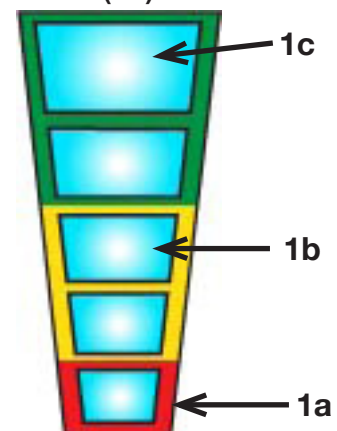
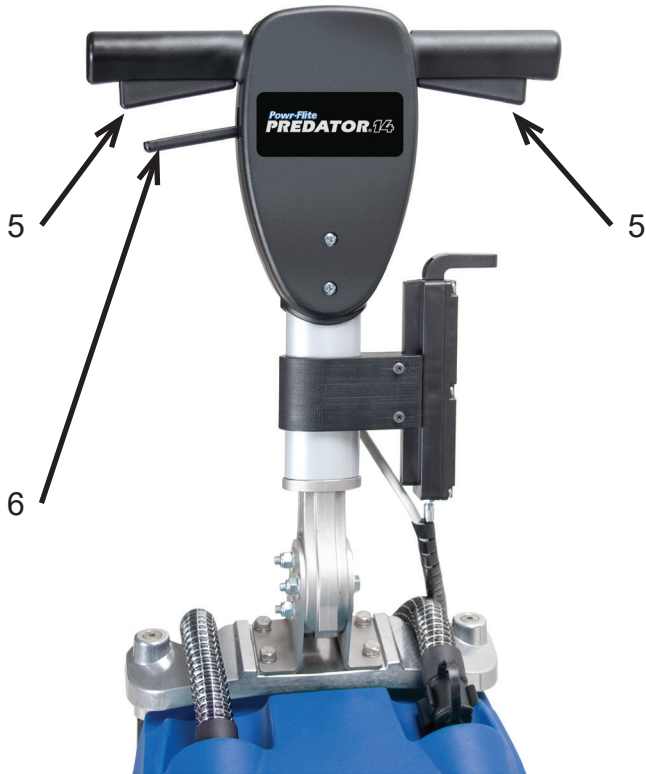

Fig 9
Fig 10
Select the most comfortable handle height using the adjustment lever (#6 on Fig 10) on the handle. Release the lever and lock in position.
The operating controls are located on the handle. (Fig 9). The icons adjacent to each switch identify the functions.
Used to switch brush motor ON and OFF. To start the brush rotating, pull the lever on the right or left hand side of the handle 5 (Fig 10). Button is illuminated when in the ON position.
The solution is controlled by pressing both switch 3 and by pulling the lever on the right or left hand side of the handle 5 (Fig 10). Button is illuminated when in the ON position.
- Check the status of the battery charge by pressing brush switch 3. (Fig 9)
- Press the brush motor button (#3, Fig 9). The light illuminates.
Press button 2 (Fig 9) to start the vacuum.
Pull and hold lever 5 (Fig 10). Releasing the lever stops the brush.
Press button 4 (Fig 9) to enable dispensing of solution. Press lever 5 (Fig 10) to release solution onto floor.
Press button 2 to start the vacuum, button 4 (Fig 9) to release solution and pull the lever 5 (Fig 10) to start the cycle.
- Before turning off the machine, stop the dispensing of solution and the rotation of brushes by releasing levers. Continue with the vacuum ON to remove all of the liquid present on the floor. Then turn off the vacuum by pressing button 2. (Fig 9)